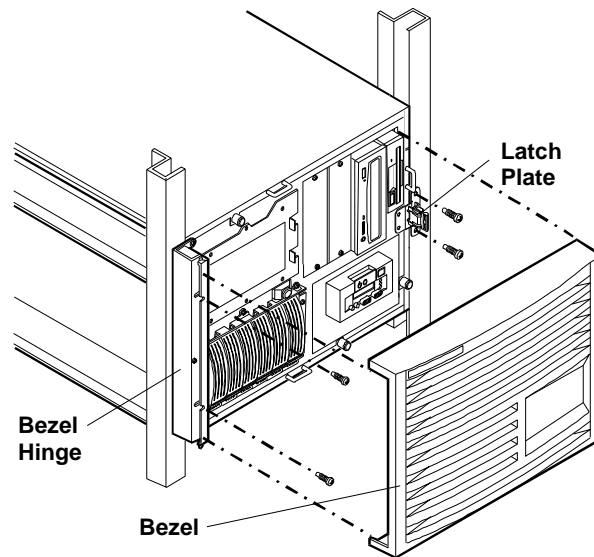

Figure 1-2. Sliding Out the NetServer From the Rack (NetServer LH 3r)
2. Remove the screws securing the latch plate and the bezel hinge to the rack. Do not unscrew the entire hinge or bracket from the chassis; remove only the outer screws, so the hinge and the bracket remain attached to the LH 3r chassis. Pull the LH 3r forward from the rack until the lockout device engages with a click (see Figures 1-2 and 1-3).
3. Reinstall the latch plate, bezel hinge, and bezel (see Figure 1-2).